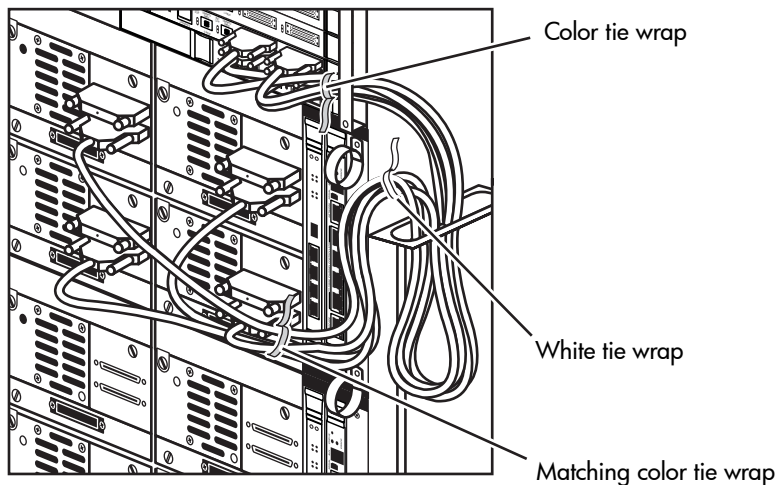

Figure 47: Attaching the tie wraps
5. The e2400-160 interface controller ships with several sets of tie wraps. Each color set should be used to designate a different drive cluster (see Figure 47).